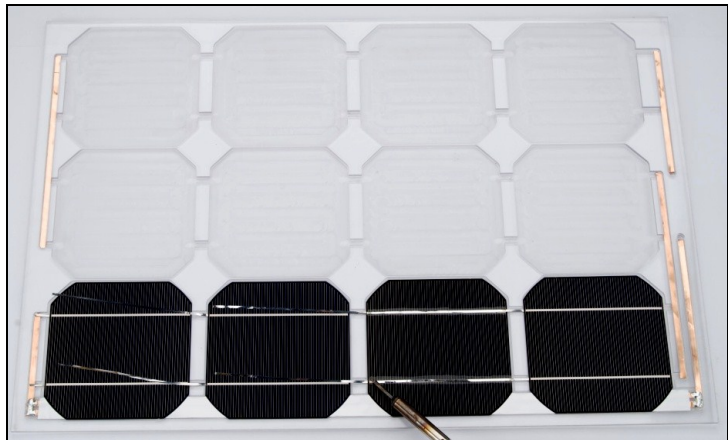

Figure 26
- ✓ Apply flux to the top of each of the conductive strips on the tops of the cells in cavities #1 thru #3, and (using the same soldering techniques that we used in Step 8), gently wipe the iron from right to left guiding the wire down the center of the cell's conductors as you go. See Figure 26.